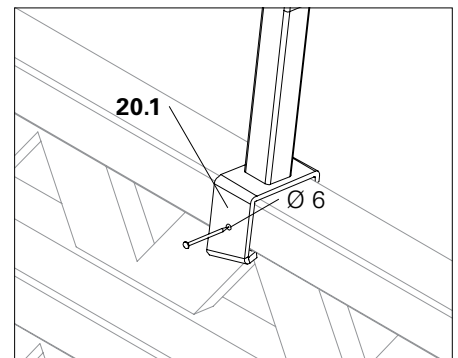

Fig. B1.01b
3. Secure bottom connecting claw (20.1) with nails. (Fig. B1.01b)
4. Mount additional Platform Brackets VARIO VBK 90 (20).